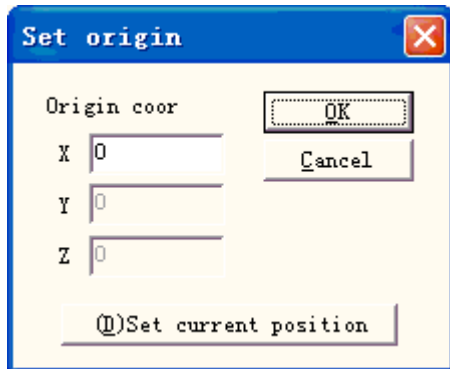
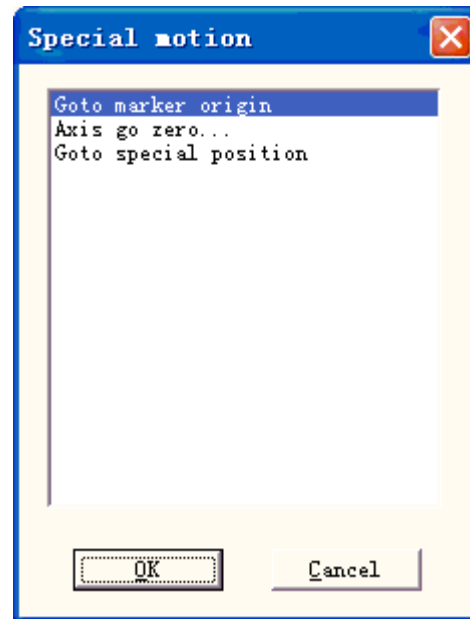

Figure 8-34
Figure 8-35
**Special pos** button can set the position that the motor moves to before mark. Hitting "Special position" button and set appointed position coordinates. Then, hit "Special motion" button and choose 'Go to special position', the motor will go to the position you set. As is shown in figure 8-34, figure 8-35: